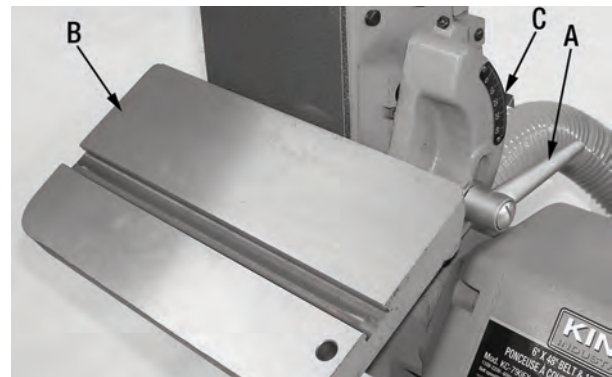

Figure 12
1. Loosen spring loaded handle (A) Fig.12.
2. Tilt the sanding belt table (B) to the desired angle, use the scale and pointer (C) as a guide to set the desired angle.